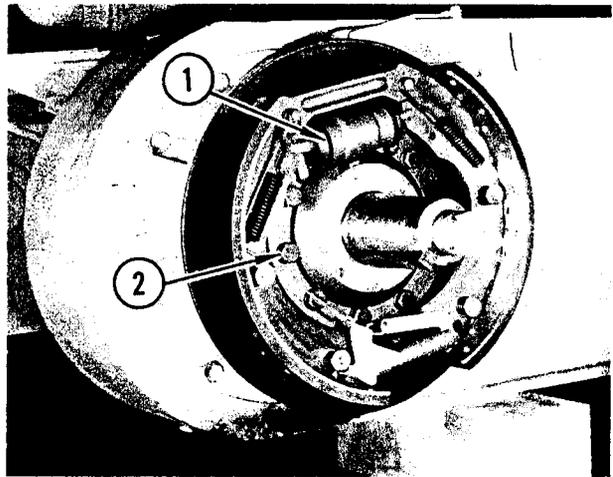

FIGURE 2. BACKING PLATE REMOVAL
Refer to Figure 2. Expand upper ends of brake shoes and remove wheel cylinder (1). Remove the ten cap screws and lockwashers (2) retaining brake assembly to eccentric housing and remove brake assembly. Illustration shows brake assembly for R. H. Note adjusting cable is on rear brake shoe.